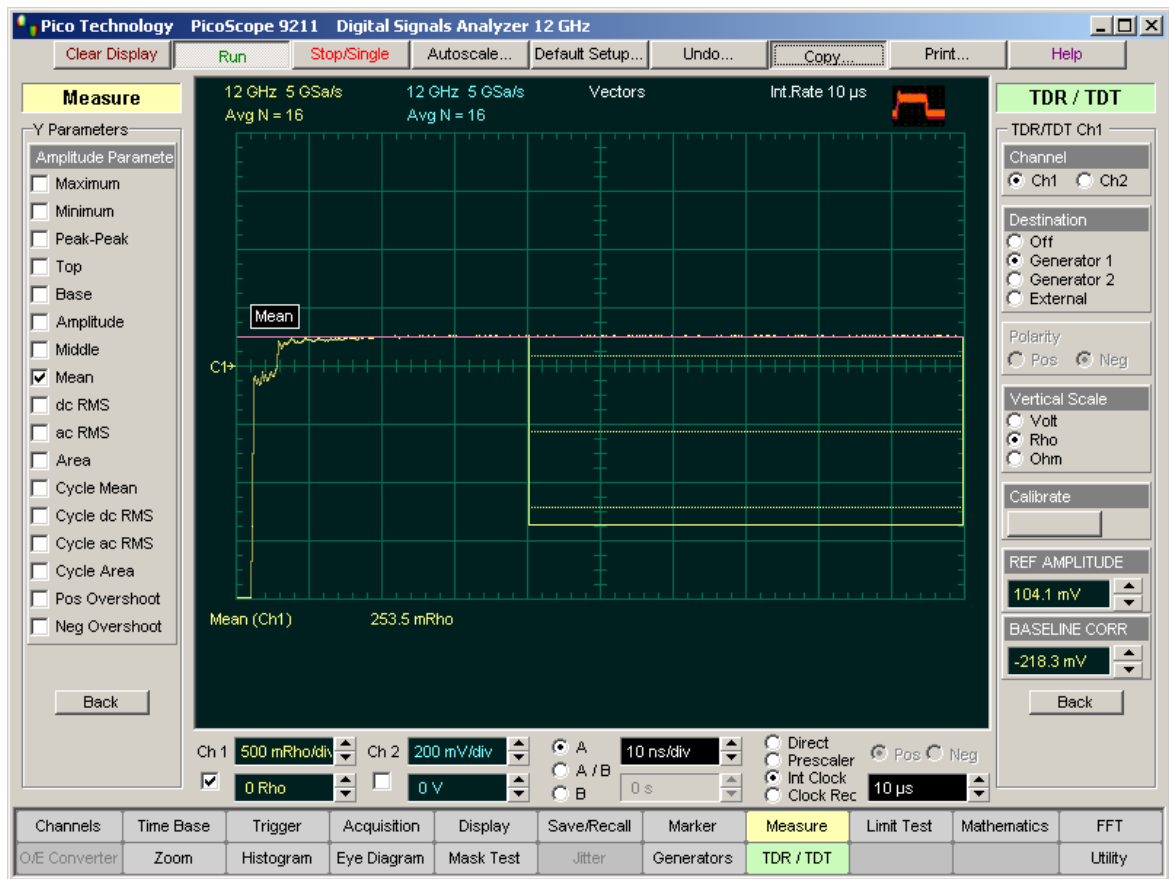

Figure 6
7. Connect a 6-dB unloaded attenuator to the Reference Plane. This attenuator should have approximately 85 ohm resistance when it is unterminated. See Figure 6.
8. Click Rho in the Vertical Scale menu. See Figure 6.
Fig. 6 shows mean value of 253.5 mrho.